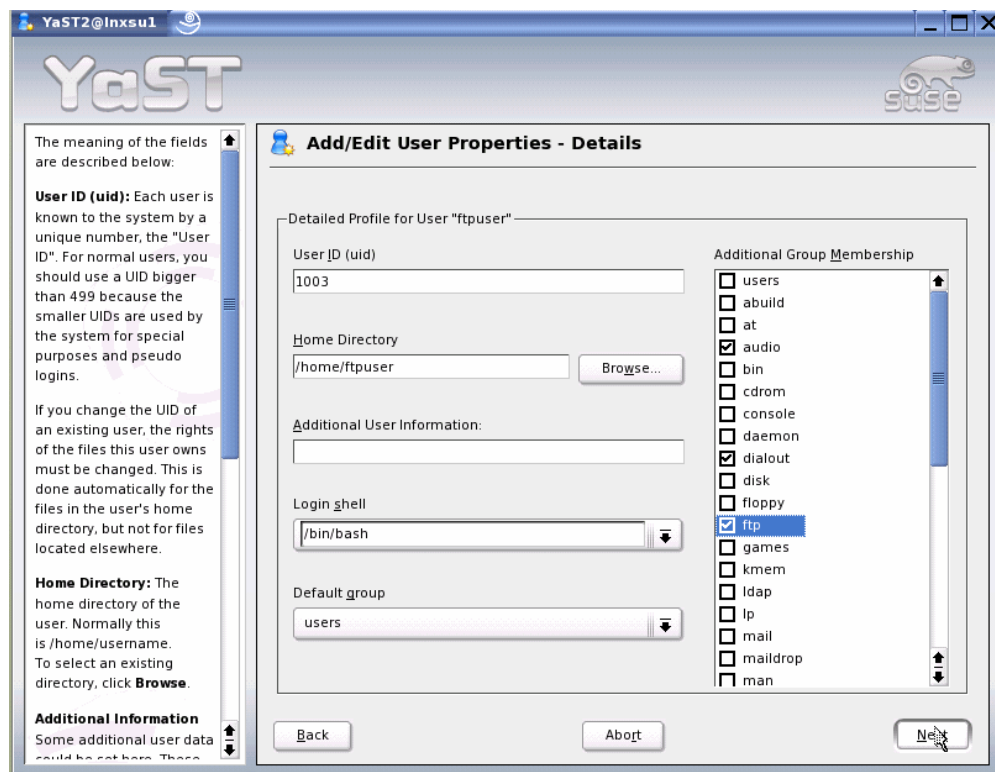

Figure 3-7 YaST add user details screen
3. We selected **Details** to enable FTP service for this user, as shown in Figure 3-7.